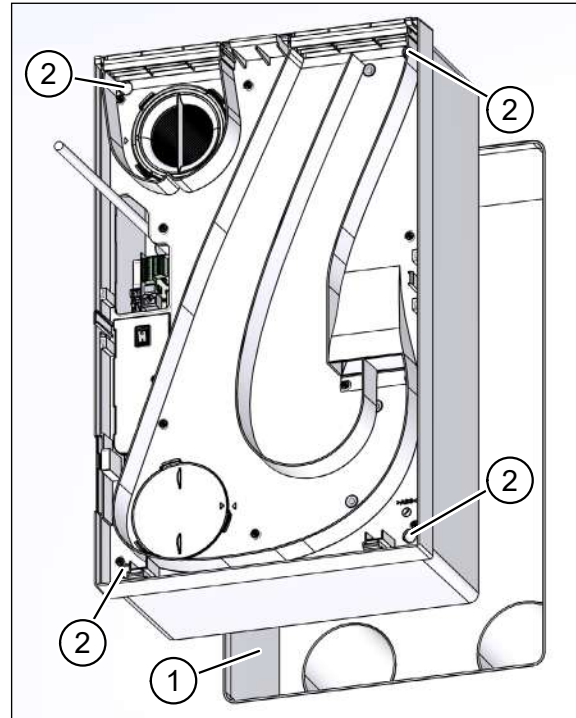

Fig. 39: Fixing the ventilation unit – flush-mount installation with ductwork connection
- ▶ Carefully push the ventilation unit as far as it will go into the wall box (item 1 in Fig. 39).
- ▶ Use the four 5 x 100 mm cross-head screws (item 2 in Fig. 39) to fix the ventilation unit. **Lightly** tighten the screws using a diagonal sequence.